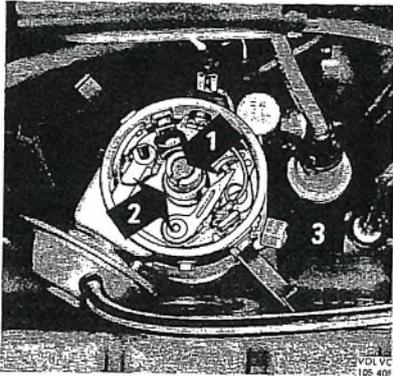

Fig. 1-8. Distributor
After every 10 000 km (6 000 miles) the distributor shaft, cam and ignition advance mechanism should be lubricated. The distributor shaft is lubricated by filling the oil cup (3, Fig. 1-8) with engine oil. After filling, close the cup. The contact surface of the cam disc (2) should be lubricated with a thin coating of grease, Bosch Ft 1 v 4, or corresponding grease. The ignition advance mechanism should be lubricated by pouring 2-3 drops of light engine oil (SAE 10 W) on the wick (1) in the distributor shaft.